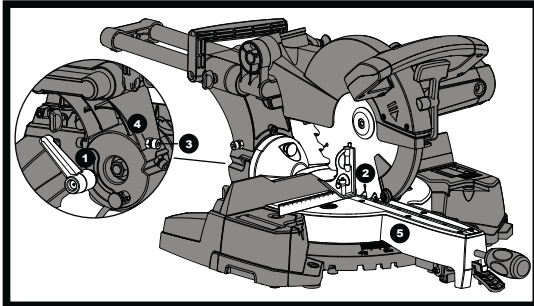

Fig 20
- 1) Loosen bevel lock handle (1) and rotate the cutting arm completely to the right until it stops against the vertical stop. Tighten the bevel lock handle.
- 2) Place a combination square (2) on the mitre table with the ruler against the table and the heel of the square against the saw blade.
- 3) If the blade is not 90° (0°) square with the mitre table (5), loosen the bevel lock handle (1), tilt the cutting head to the left, loosen the locknut (4) on the bevel angle adjustment bolt (3) and use an hex key to adjust the socket headed stop bolt (3) depth in or out to increase or decrease the bevel angle.
- 6) Tighten bevel lock handle (1) and locknut (4) when alignment is achieved. (See fig. 20)